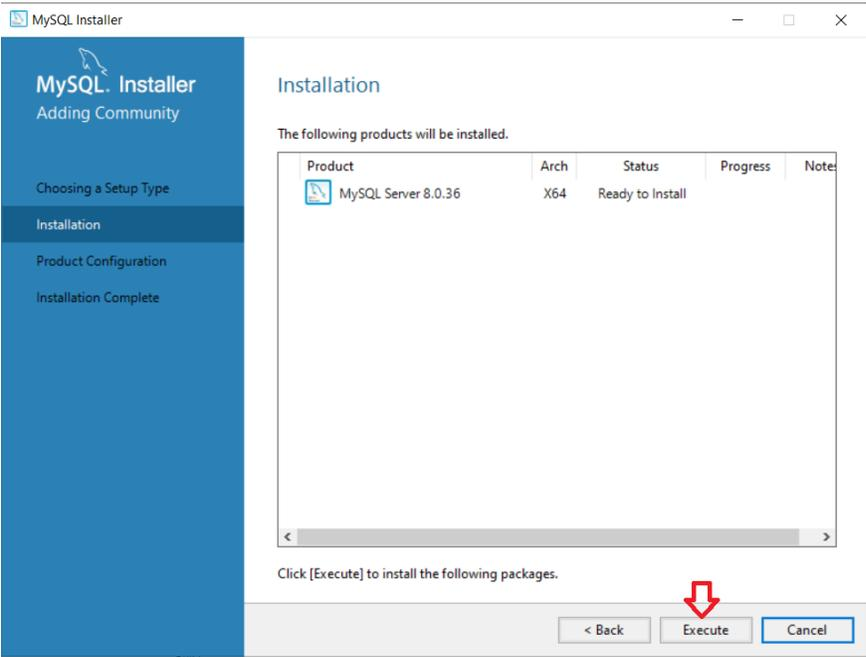

Figure A5
5. On the Installation screen, click "Execute". (Figure A5)